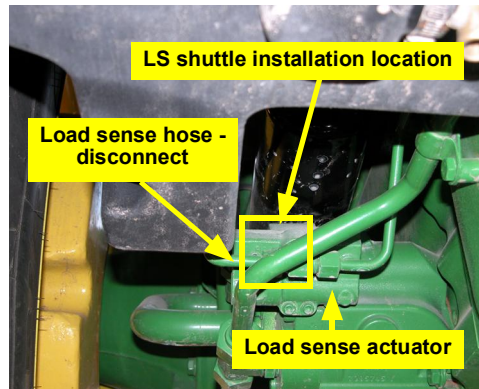

Figure 6b: Load sense shuttle location - high flow pump shown
- b. Locate the load sense actuator on the hydraulic pump under the tractor cab on the right side. Disconnect the load sense hose from the load sense actuator (Figure 6b).
**NOTE:** *Figure 6b shows a high flow pump. Install the load sense shuttle with adapter **HQ**. You will connect the load sense hose from the hydraulic steering block to **HQ**.*